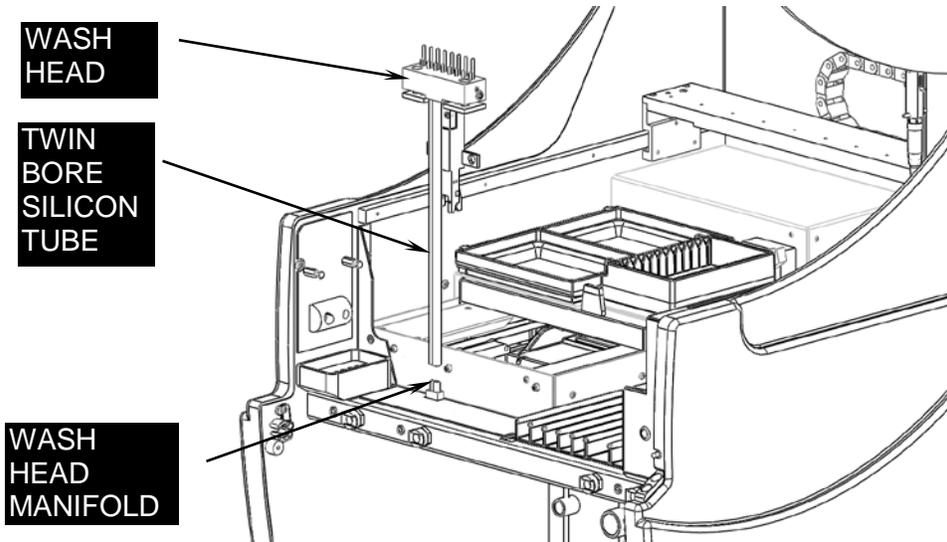

Figure 13-3: Fitting the Tubing into the Wash Head
1. Fit the Twin Bore Silicone Tubing of the Wash Head to the Wash Head Manifold (Figure 13-3).